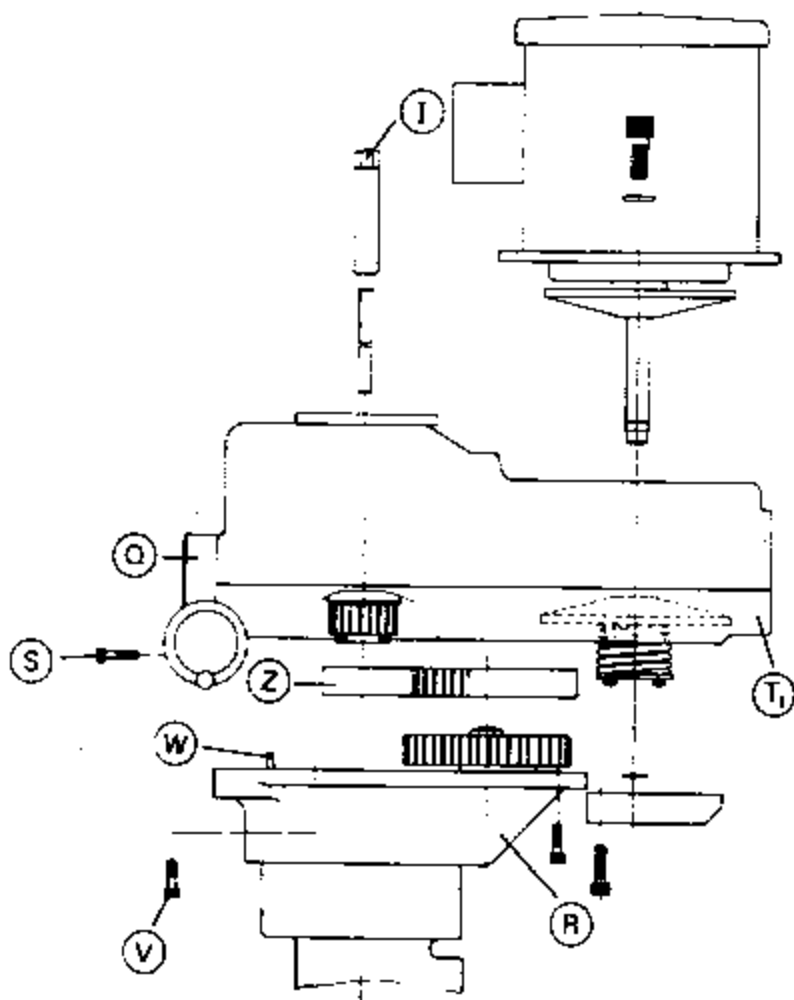

Figure 26
- c. As shown in Figure 26, take off the connected gear housing (R) and the four hexagonal concave bolts (V) bottom belt housing (T1).
- d. Use a soft mallet and hit the bottom belt housing lightly to disengage it with the fix pin (W) to dismantle the bottom belt housing (T1) as shown in Figure 26.
- e. Take off the hexagonal concave bolt (X) of the two setting bearing housing and remove the front vari-disc assembly set (E1). Brake block (Y) can be replaced then.
(4) Replacement of Timing Belt:
- c. Refer to Step c to d on P. 27 replacement of brake block for the dismantling of bottom belt housing and change the timing belt as shown in Figure 26.